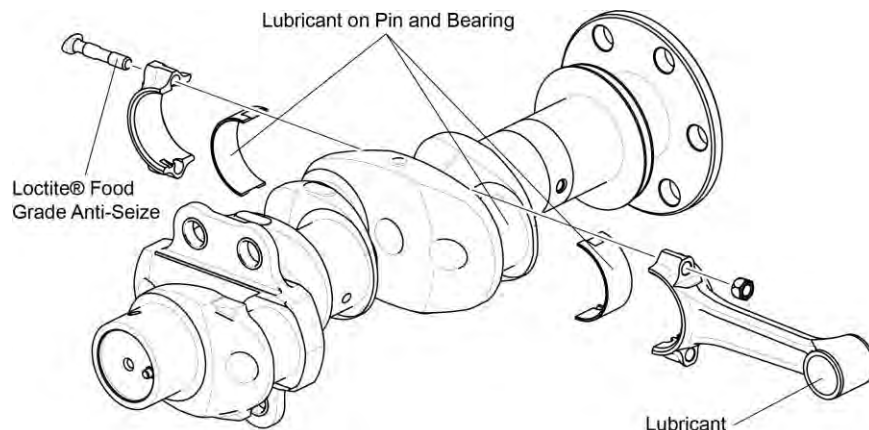

Figure 47
- (1) Ensure that all of the connecting rods have the same weight class letter.
- (2) Apply specified lubricant to the connecting rod bearings (per the latest revision of Service Instruction No. SI-1059) in Figure 47. Different lubricants are used on the connecting rod bearings.
- (6) Apply Loctite® Food-Grade Anti-Seize Lubricant or equivalent to the bottom two or three threads of the new connecting rod bolts (Figure 47). Wipe away excess lubricant with a clean, lint-free cloth.
- (7) Apply engine oil mixture to the crankpin journals.
- (8) Install each connecting rod pair (with the bearing inserts installed) on their respective crank pins on the crankshaft (where the numbers on the connecting rods and bearing locks point down - toward the oil sump.)